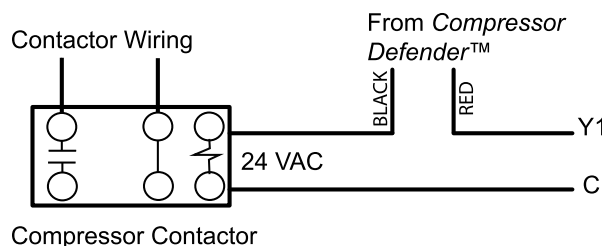

Figure 4. 24 VAC Contractor Wiring.
5. Connect the supplied 24 VAC thermostat wire. Splice *Compressor Defender™* thermostat control wires into the Y1 terminal thermostat wire as shown in Figure 4.